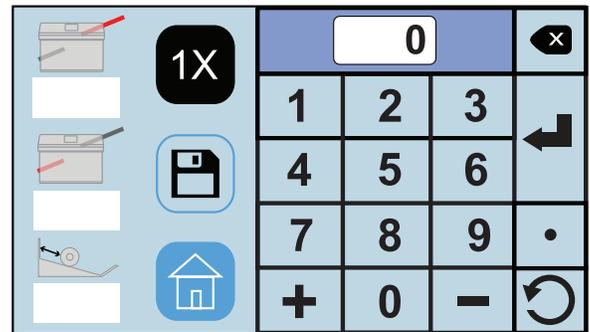

Fig. 23
1. Select the top fold plate icon  (Fig. 23) to set the fold stop position for the first fold (the icon will flash dark gray when selected). Using the touch pad key, in the measurement for the first fold stop position, (**Note:** the minimum position is 1.62" and the max. position is 12.59").